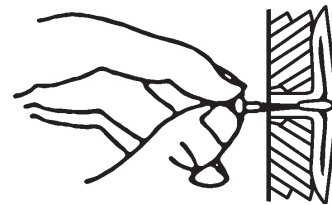

Figure 10 - Popping Open Anchor Wing For Thin Walls
4. For thin walls (1/2 inch or less), insert red key into wall anchor. Push red key to “pop” open anchor wings (see Figure 10).